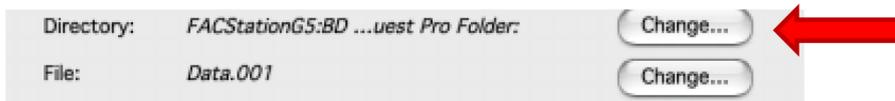

Figure 3. Displaying within the Browser, the Directory. Selection of the folder that will contain all the file of the experiment.
7. Choose the folder where you want to save your data by clicking on the first 'Change' (Figure 3).